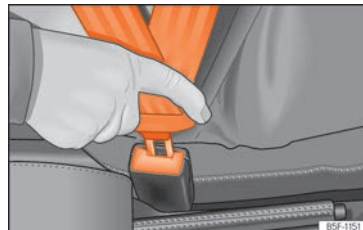

**Fig. 10** Insert the latch plate of the seat belt into the buckle.
- Engage the latch plate in the buckle of the corresponding seat » » » **Fig. 10**.